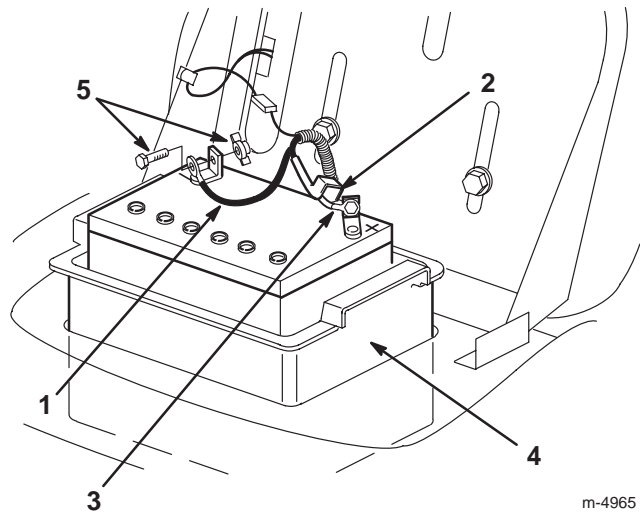

Figure 23
6. Disconnect the negative (black) ground cable from the battery post (Fig. 23).
7. Slide the rubber cover up the positive (red) cable. Disconnect the positive (red) cable from the battery post (Fig. 23).
8. Remove the battery box and battery from the chassis (Fig. 23).
1. Put the battery into the battery box and install it into the chassis (Fig. 23).
2. Using the bolt and wing nut, connect the positive (red) cable to the positive (+) battery post (Fig. 23). Slide the rubber cover over the battery post.
3. Using the bolt and wing nut, connect the negative (black) cable to the negative (-) battery post (Fig. 23).